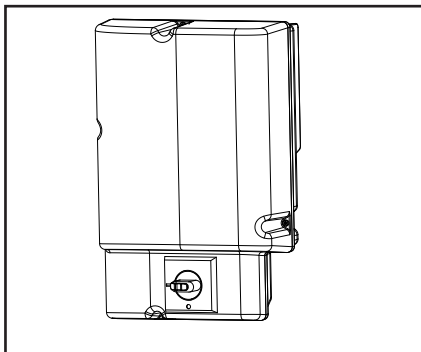

Fig. 1 110008442A
2. Interrupt the master switch (Fig. 1).
1. Turn off the main switch at the control box (Fig. 1)